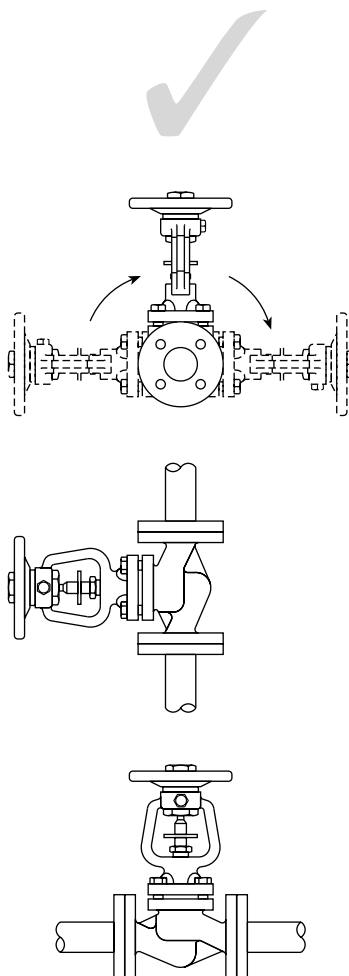

Fig. 7 **Incorrect installation**
- 3.3** Install the valve in the direction of flow given by the arrow on the body. The preferred position is with the spindle vertical. The valve can be installed from the vertical to the horizontal plane (see Figure 7, page 11).